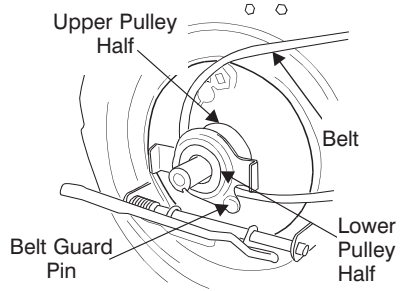

Figure 26
19. Place belt between the two pulley halves on the crankshaft. Make sure to route the belt inside the belt guard pin. See Figure 26.
IMPORTANT: For proper assembly, it is essential to keep the assembly positioned as shown in Figure 26.